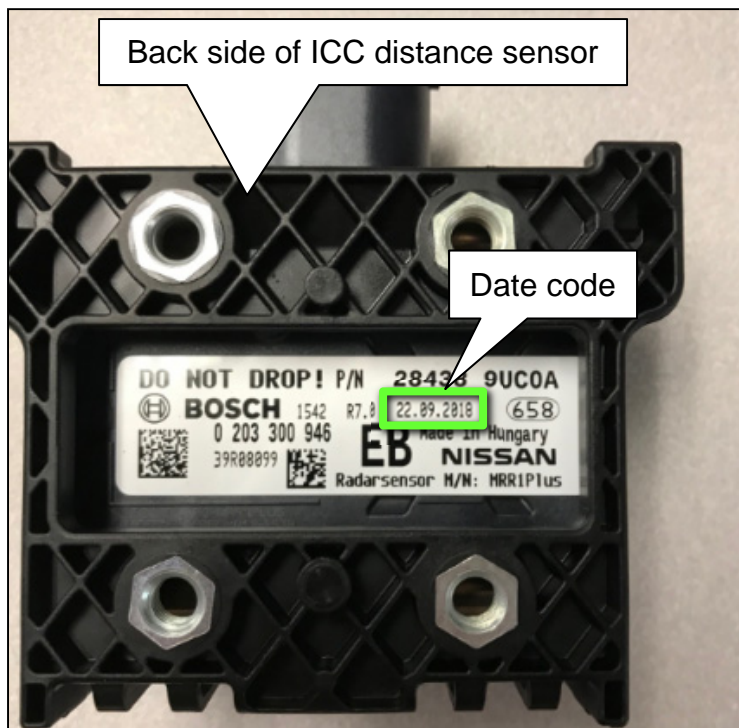

Figure 3
6. Locate and then write down the ICC distance sensor manufacturing date code (see Figure 3).